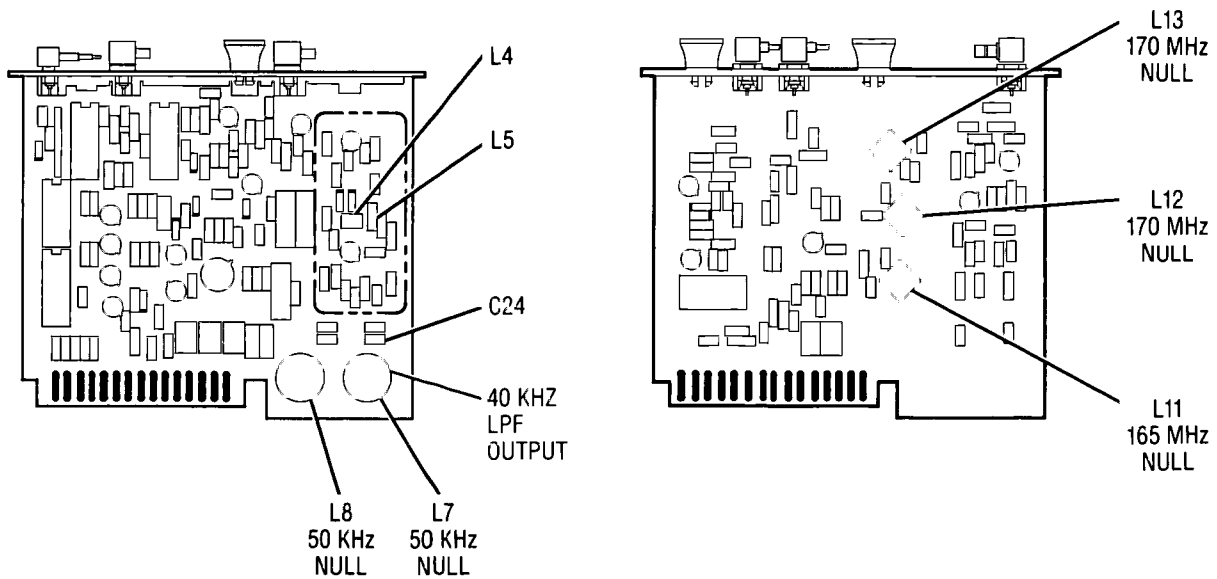

Figure 5-12. Location of PLL1 Adjustments
52. Adjust A36L7 and A36L8 (50 kHz NULL) to null the 50 kHz signal displayed on the Spectrum Analyzer. Refer to Figure 5-12 for location of adjustments.